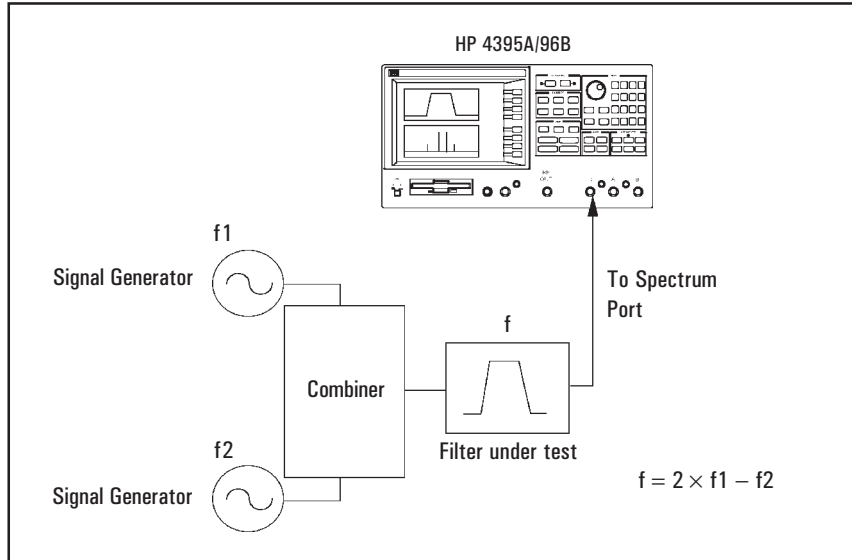

Figure 16. Measurement Configuration of the SAW Filter Intermodulation Distortion
Intermediate Frequency (IF) SAW filter evaluations require not only the general network filter parameter evaluation, but also intermodulation distortion evaluation. This measurement is performed by applying two input signals to a filter. A third order signal can then be seen within the filter bandwidth. For example, when the center frequency of the filter is f_0 , and the two input signals are $f_1 = f_0 + 100 \text{ kHz}$, $f_2 = f_0 + 200 \text{ kHz}$, the third order signal ($(2 \times f_1 - f_2) = f_0$) inputs to the filter. The size of this third order signal can be evaluated after going through the filter using the spectrum analyzer. The measurement configuration for the SAW filter intermodulation distortion is shown in Figure 16.